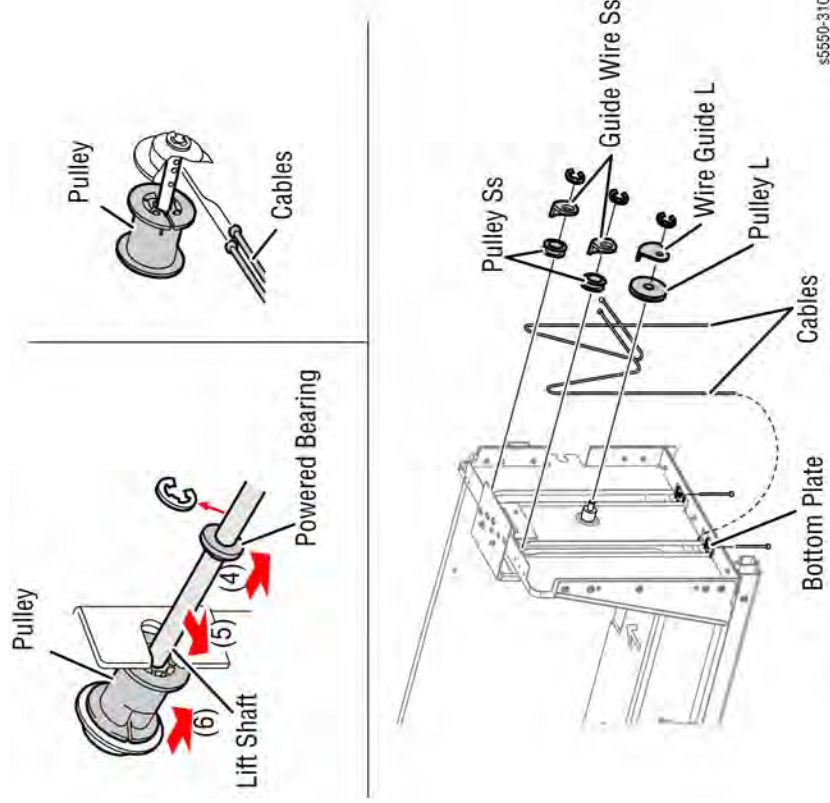

Figure 2 Removing the Cables
The following summarizes the Cable replacement procedure. Refer to Figure 1 and Figure 2 as a reference while reinstalling the cables.
1. Orient the Bottom Plate so the arrow points in the direction shown in Figure 2.
6. Press the Pulley in the opposite direction of the arrow (6) so that the tips of the Cables are not detached from the Lift Shaft.
8. Move the Lift Shaft in the opposite direction of the arrow (5) to fit it to the notch on the frame.
9. Move the Powered Bearing in the opposite direction of the arrow (4) to install it to the frame.